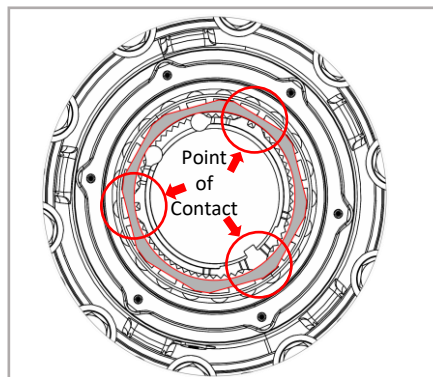

FIGURE 21. Correct Keeper Position
6. Install and fix the keeper (only for PRO-TORQ[™]). If it is not fixed, the parts may fall out and cause injury. Make sure that it is fully installed. (See Figure 21.)